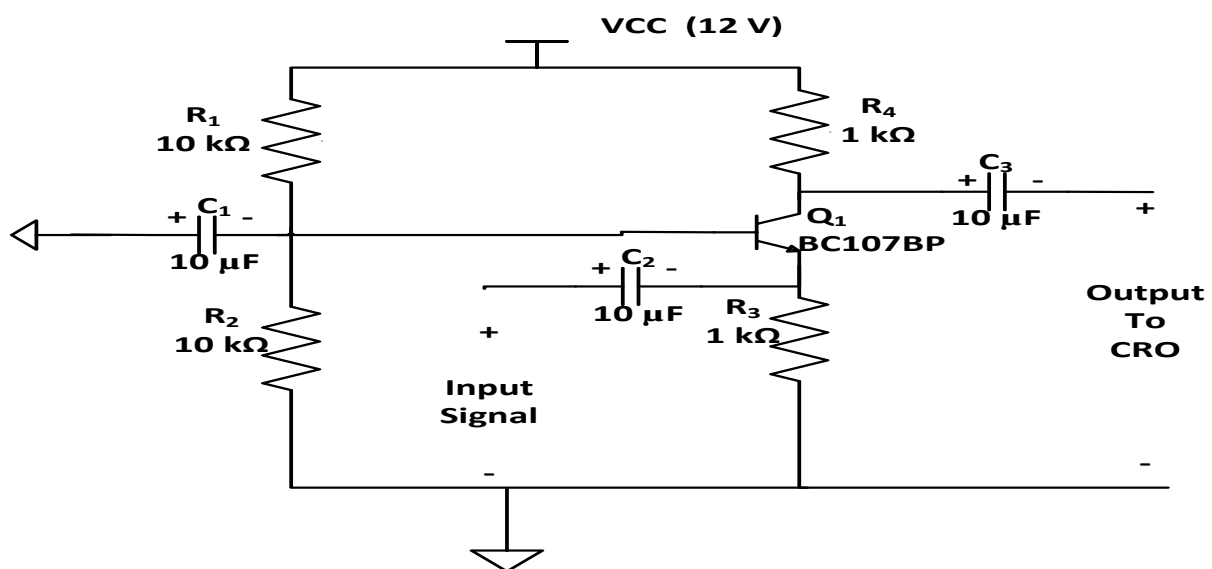

Figure 1.3 Common base amplifier circuit diagram
1.2 Simulate the common base amplifier as shown in figure 1.3 using MULTISIM. Draw and analyze the gain versus frequency graph for CB amplifiers.